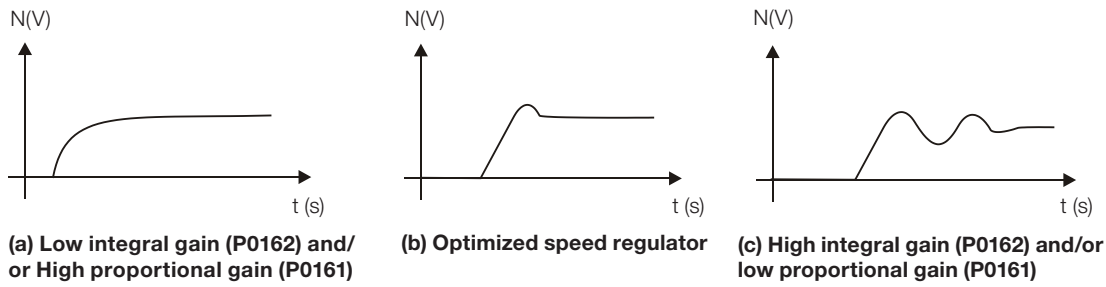

Figure 11.5: (a) to (c) Speed regulators response types
6. Verify among the options of the Figure 11.5 on page 11-16, which waveform best represents the observed signal.
7. Adjust P0161 and P0162 according to the response type presented in the Figure 11.5 on page 11-16.